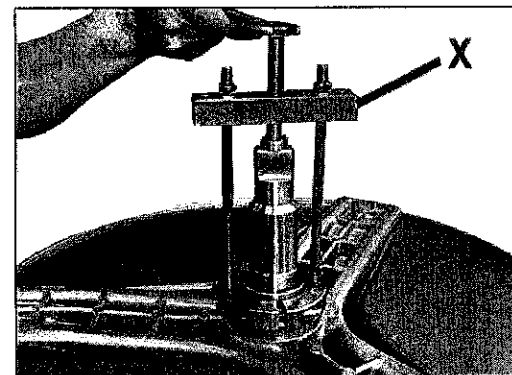

fig. 26
- Protect the shaft with the cover which comes with tool **X**. (fig. 26).